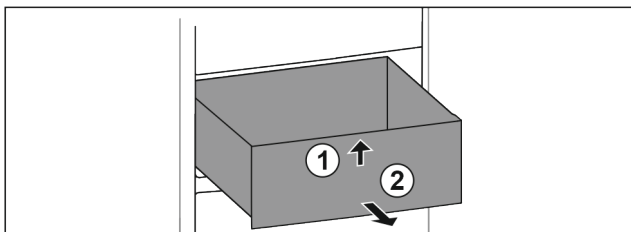

Fig. 112
- ▶ Lift up drawer at the front. Fig. 112 (1)
- ▶ Remove drawer to the front. Fig. 112 (2)